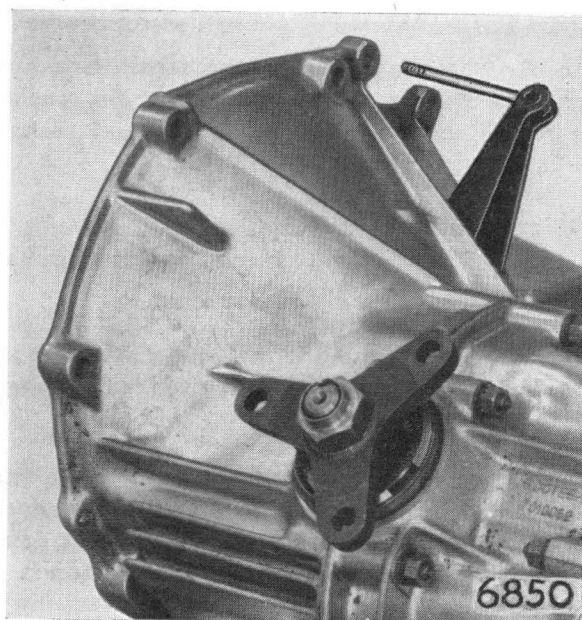

Fig. 10. Clutch rod in position
**NOTE:** AT THIS STAGE TAKE CARE THAT THE OPERATING PUSH ROD ON THE CLUTCH LEVER IS FACING THE ENGINE (SEE FIG. 10). IF THE ASSEMBLY IS INSTALLED WITH THE ROD IN BEHIND THE CLUTCH LEVER, IT WILL BE IMPOSSIBLE TO LOCATE THE PUSH ROD IN THE SLAVE CYLINDER WITHOUT REMOVING THE WHOLE ASSEMBLY AGAIN.